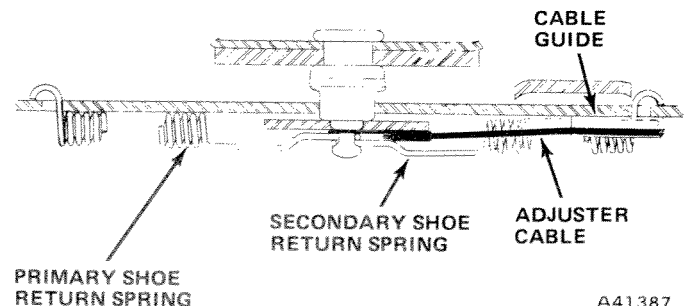

Fig. 9-24 Brake Shoe Spring Installation
(1) Before assembly lubricate support plate ledges, anchor pin, self-adjusting cable guide adjuster screw threads, and pivot with molydisulphide grease or chassis lubricant NLGI No. 2. Lubricate the parking brake cable lever located on the rear wheel secondary shoes.
(2) Position brake shoes on the brake support plate and install hold down springs.
(3) Place adjuster cable eyelet on anchor pin.
(4) Install primary return spring.
(5) Position cable guide and install secondary return spring (fig. 9-24).
(6) Install adjuster screw assembly. Place small hooked end of adjuster spring in large hole in primary shoe and place large hooked end of adjuster spring in adjuster lever.